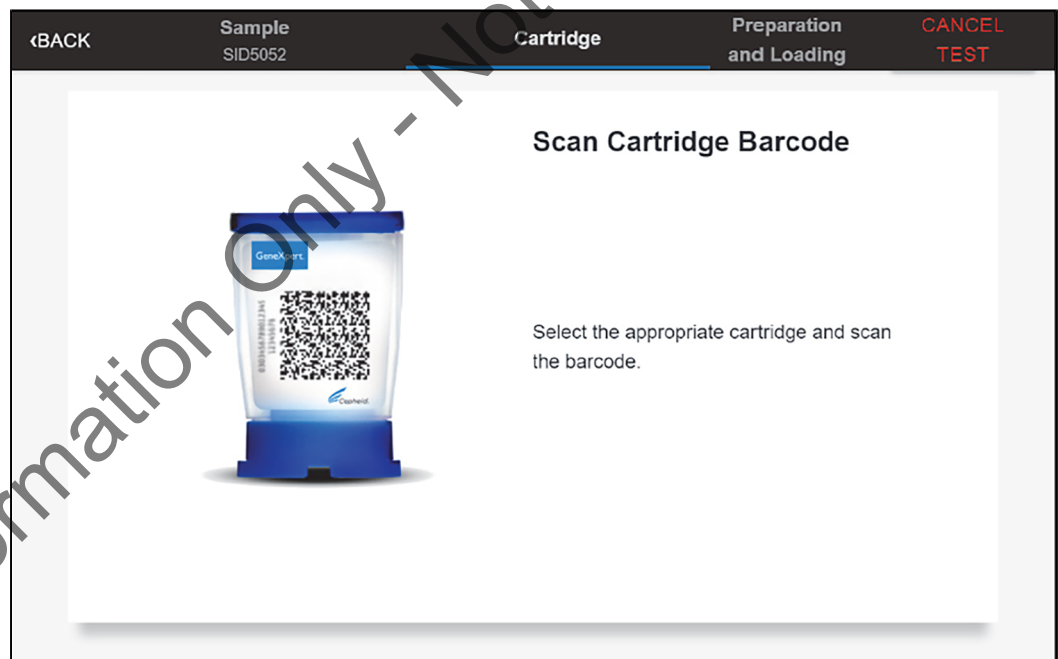

Figure 14. Scan Cartridge Barcode Screen
4. Verify the Sample ID and touch **CONFIRM**. The **Scan Cartridge Barcode** screen displays (see Figure 14).